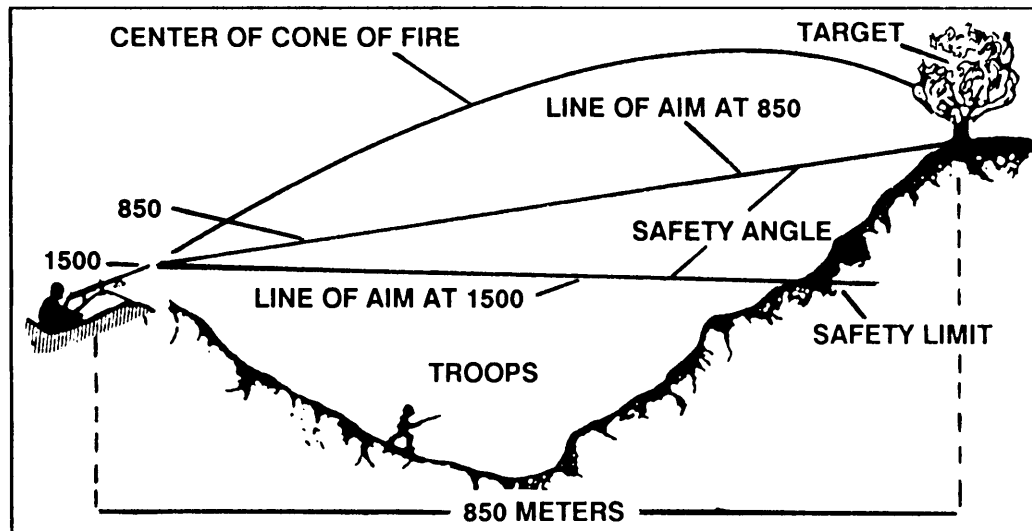

Figure 6-13. Application of gunner's rule.
(1) The gunner's rule can be applied when the friendly troops are at least 350 meters in front of the gun position, and the range to the target is 850 meters or less (Figure 6-13).